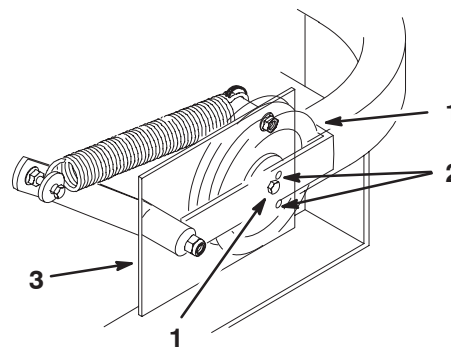

Figure 74
Important Check and make sure the belt is installed into both the front and rear belt guides (Fig 74).
4. Check the belt tension. The spring loaded idler center bolt needs to be near the top alignment hole in left support plate (Fig 74).